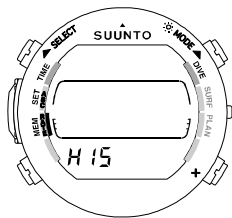

Fig. 6.9 Dive History Memory Mode.
1. In the Memory Mode [MEM], press **SELECT** two (2) times to select the Dive History Memory Mode (Fig. 6.9). The HIS text appears at the bottom of the display to indicate the selected mode.